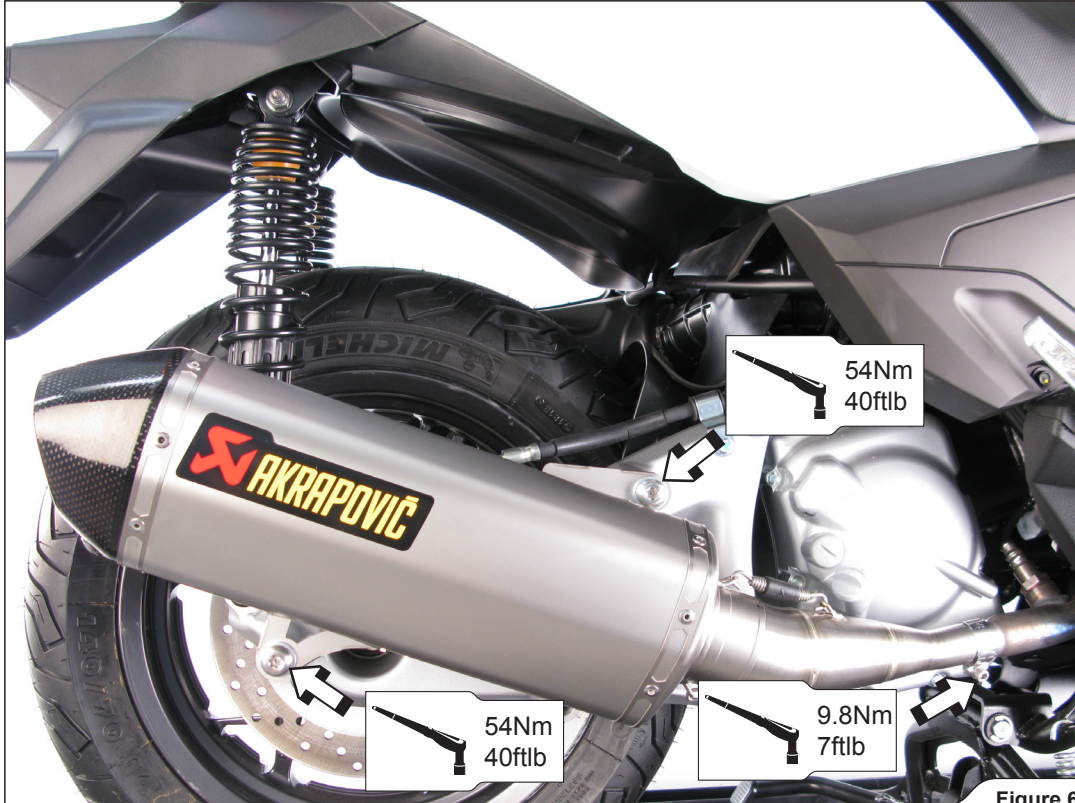

Figure 6
- 3. Carefully slide the muffler with link pipe onto the outlet side of the stock header pipe. Rotate the link pipe inside the muffler's inlet, until the muffler's brackets align with the two stock threaded muffler's brackets. Tighten the metal clamp at the Akrapović link pipe/stock header pipe joint and muffler bracket bolts to a specified torques (Figure 6, 7).